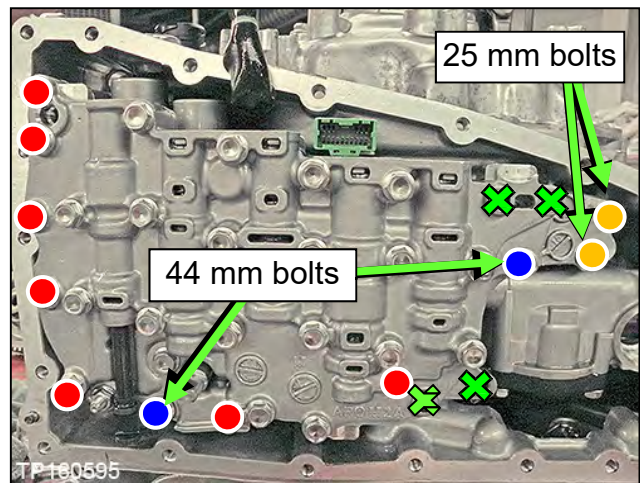
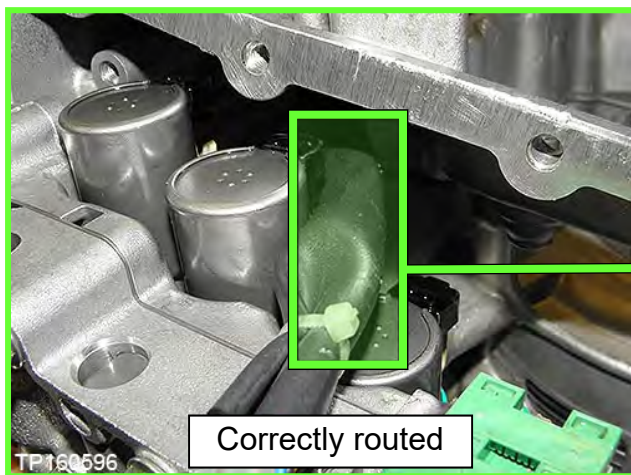
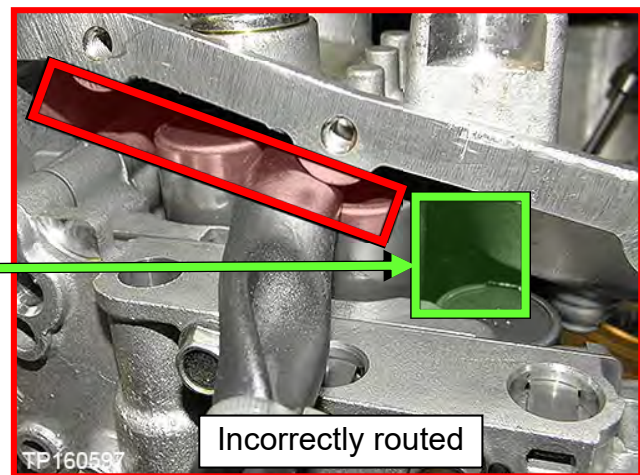

Figure 141
Figure 142
Figure 143
114. Install the Control Valve with eleven (11) mounting bolts (Figure 141).
**IMPORTANT:** Leave four (4)  bolt holes blank at this step.
**CAUTION:** Make sure the wiring harness does not get pinched (see Figure 142 and Figure 143 for correct routing).